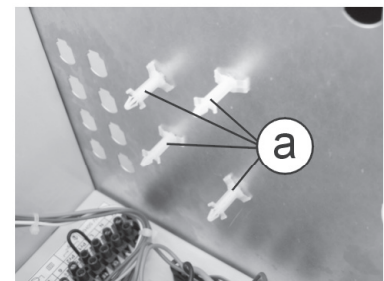

fig. 2
4. Take the four plastic mounting pins from the switching kit and insert the bigger diameter end into the holes in the boiler's electrical installation box (Fig. 2/a).